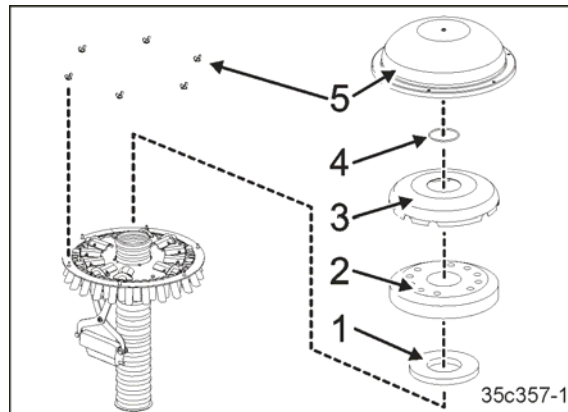

Fig. 214
15. Install the foam insert (Fig. 214/1) and sealing ring (Fig. 214/2).
16. Install the inner distributor cover (Fig. 214/3).
17. Install the ring (Fig. 214/4).
18. Install the outer distributor cover (Fig. 214/5).